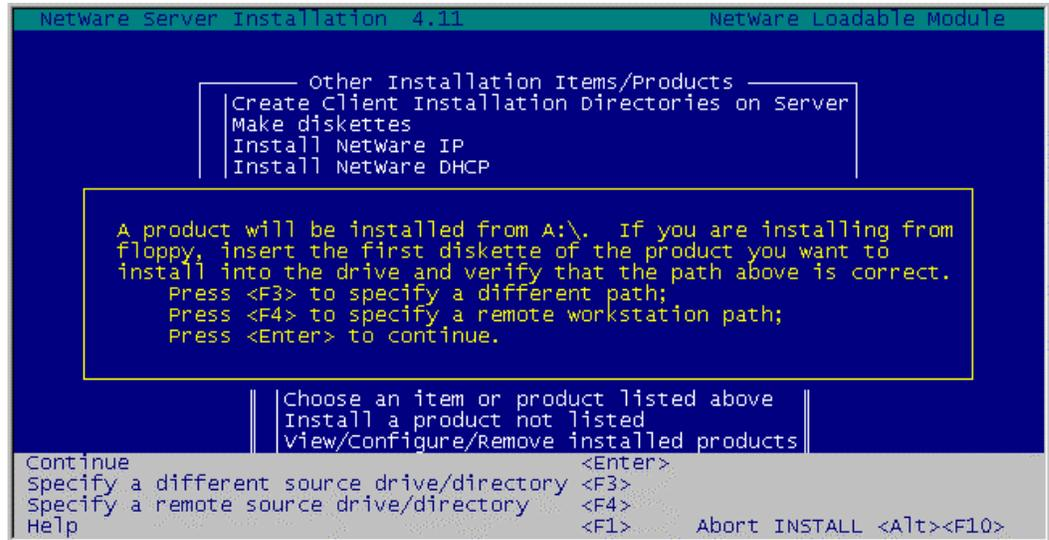

Figure 11-3. Install Product Screen
4. Select “**Install a product not listed**”. The Install Product screen (Figure 11-3) will be displayed.